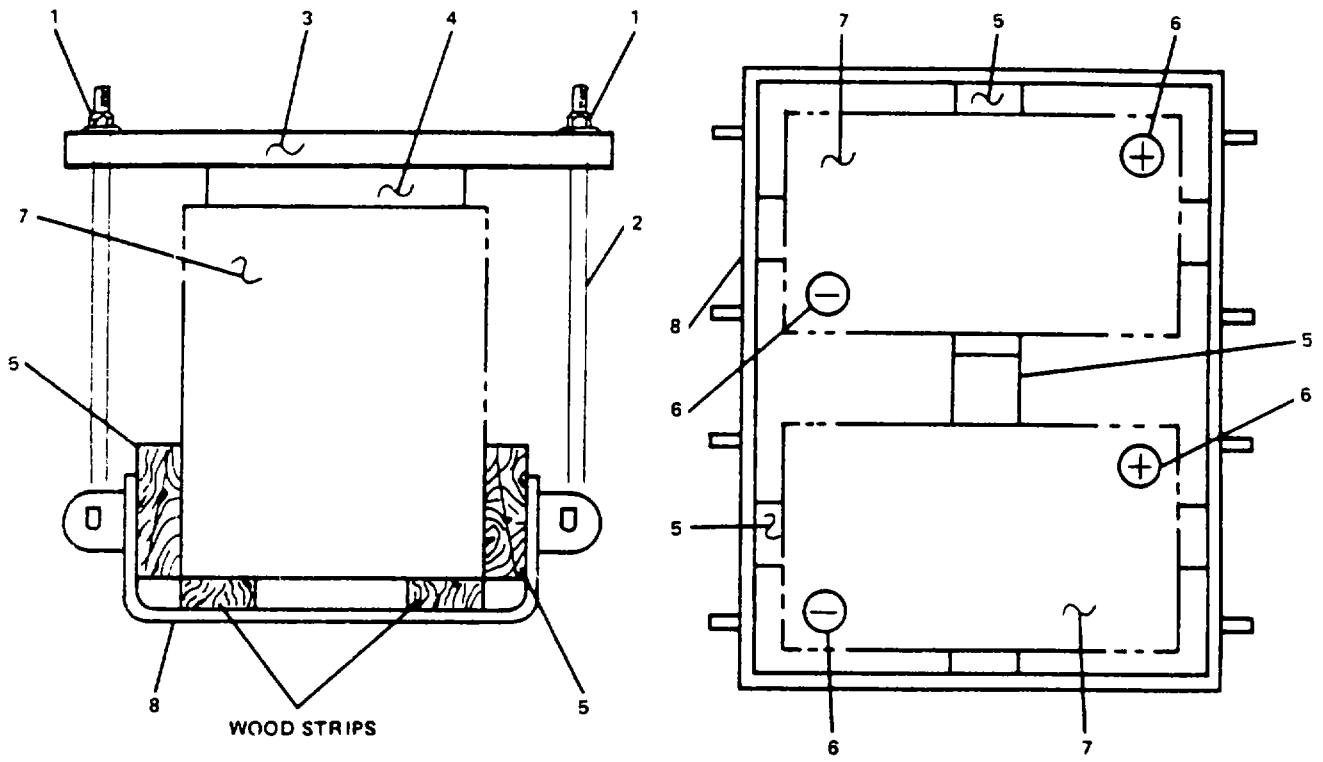

Figure 2-84. Battery Replacement.
- a. Remove hex nut and flat washer (1, Figure 2-84) from J-bolt (2).
- b. Remove battery box cover (3).
- c. Remove wood spacer bar (4).
- d. Loosen cable hold down bolts and tag and remove positive and negative cables (6) from battery (7).
- e. Remove wood wedges (5).
- f. Remove battery (7) from battery box (8).